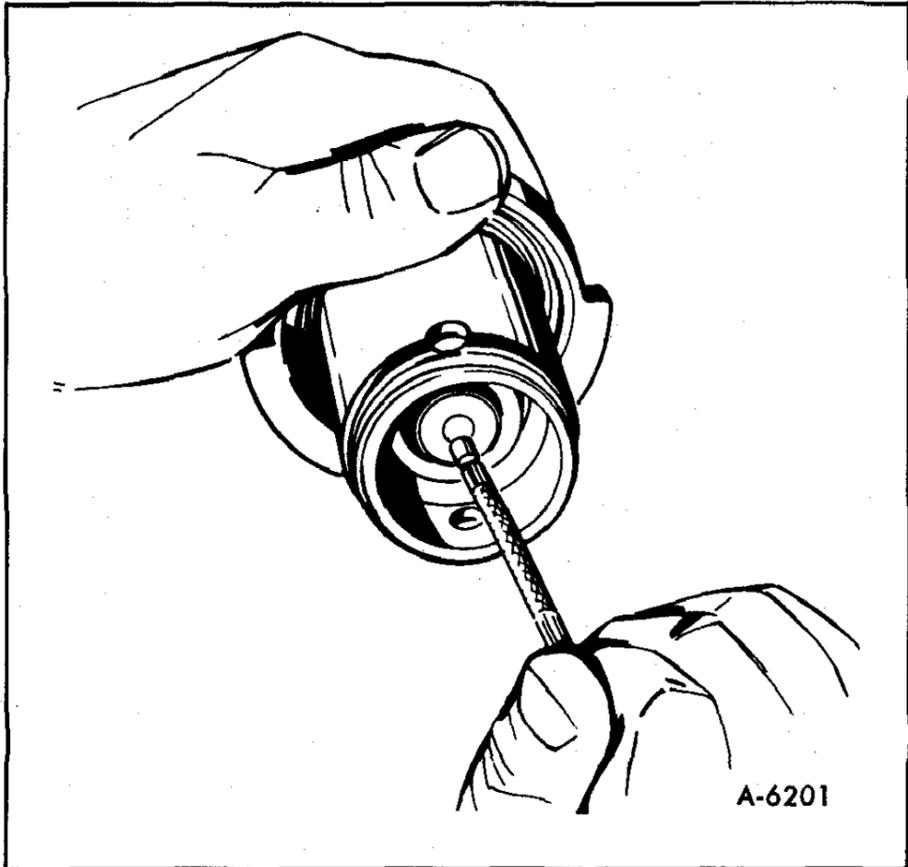

Figure 14—Removing Reaction Piston and Reaction Disc from Secondary Power Piston
8. Remove the reaction piston and reaction disc from the center of the secondary power piston by pushing down on the end of the reaction piston with a small object, such as a pencil, wooden dowel or metal rod (figure 14).